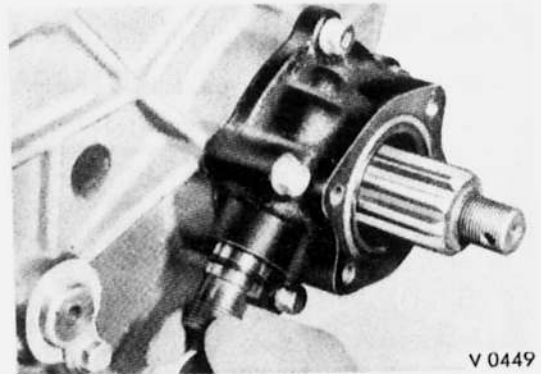

Fig. 3-25. Removing the speedometer driven gear from the speedometer housing.
18. Remove the speedometer shaft sleeve stopper. Then, remove the speedometer shaft sleeve set together with the speedometer driven gear complete from the housing. (Fig. 3-25)